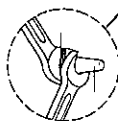

Fig. 14
Secure (35) with (802) (8mm spanner) as shown in Fig. 14. so as not to turn it then loosen (14) PEG with (803) (10mm spanner) as much as it does not come off.